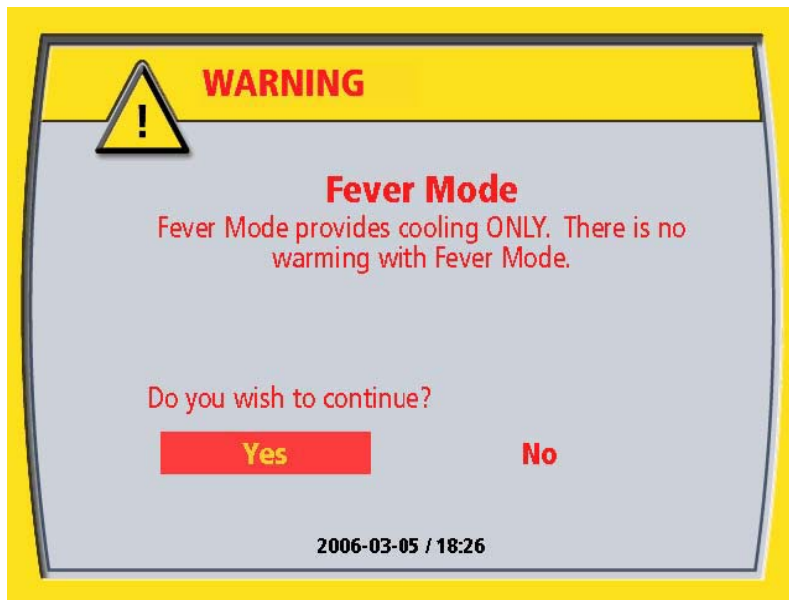

Figure 4.9. Fever Mode Confirmation message
4. If you have selected Fever mode, you will be asked to confirm your selection with the reminder that Fever mode only cools and does not warm per Figure 4.9.